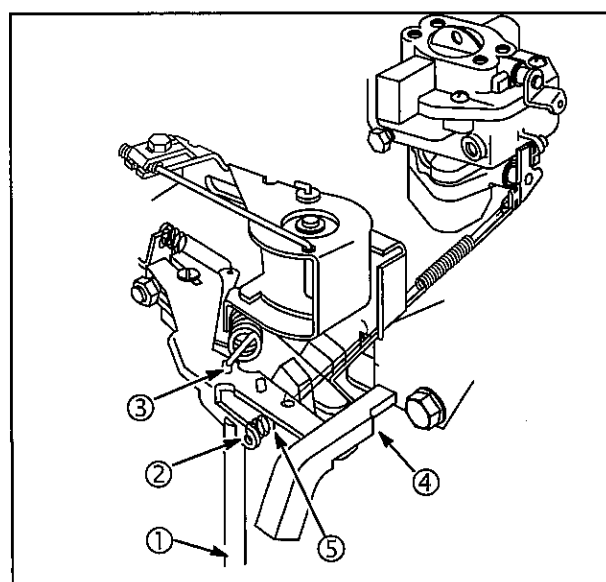

Fig. 42
Some Vanguard™ OHV V-Twin engines with remote speed control are equipped with a secondary governor spring (5). The primary governor spring is installed in #1 hole (3) on governor lever, Fig. 42.
2. Install Adjustment Gauge #19385 (4), with notch over end of governor lever and flat end of tool against governor control bracket as shown in Fig. 42.
3. Hold gauge in position and bend tab (2) with Tang Bender #19532 (1), so that all slack is removed from secondary governor spring (5) between its two anchor points, Fig. 42. DO NOT STRETCH SPRING.